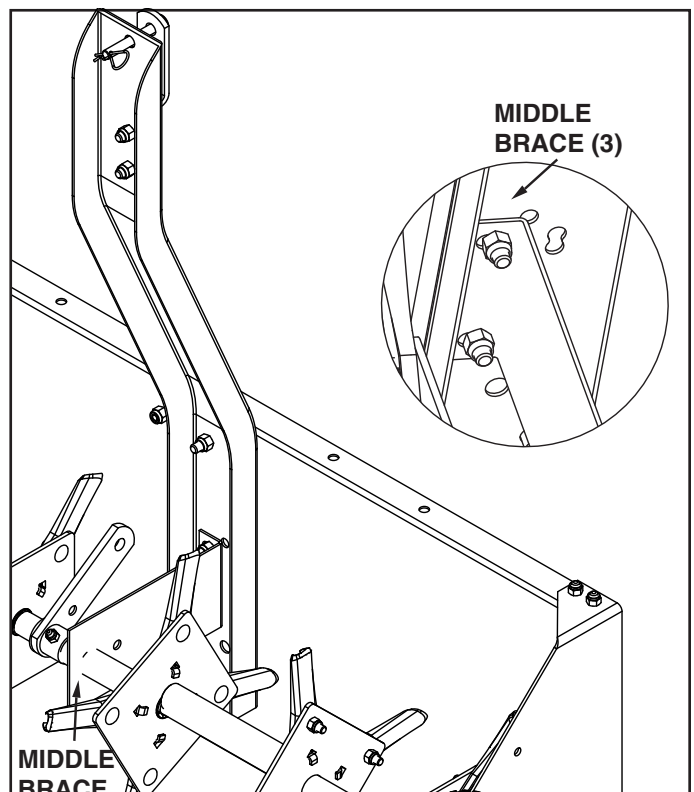

FIGURE 11
- Tip the aerator back and rotate the middle brace up against the bottom of the tongue. Fasten it to the set of holes shown using two 3/8" x 1" hex bolts (D) and 3/8" nylock nuts (I). Do not tighten until final step. See figure 11.